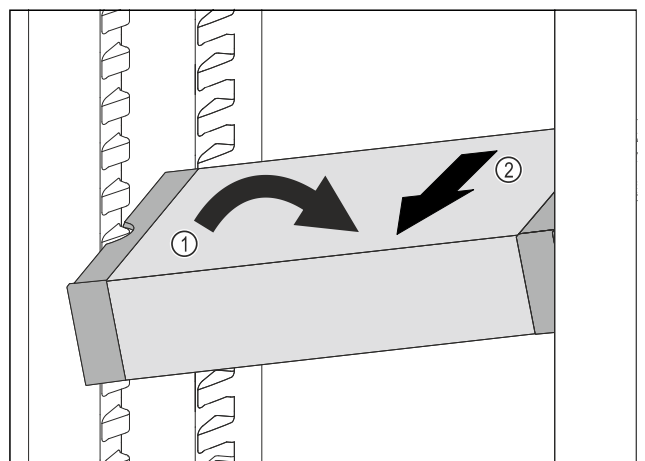

Fig. 93
- Set VarioSafe in refrigerator compartment at an angle. Fig. 93 (1)
- Take VarioSafe out to the front. Fig. 93 (2)